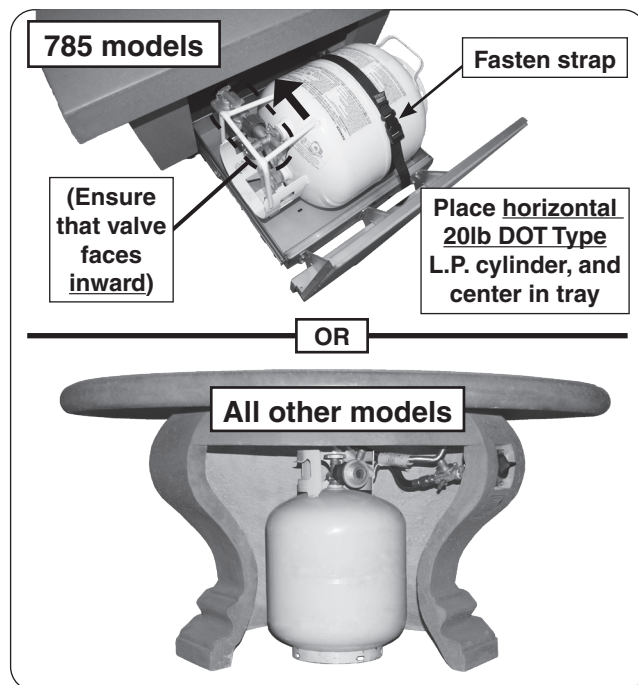

Fig. 35-2 L.P. Cylinder placement
3. The propane cylinder (not included) is to be located inside the base of the unit, via the storage door/drawer (see Fig. 35-2).
- Ensure it is in the correct upright position, centered on the tray, and with the valve facing inward. See Fig. 35-2, 35-3 and follow the warning labels on the tank for proper placement.